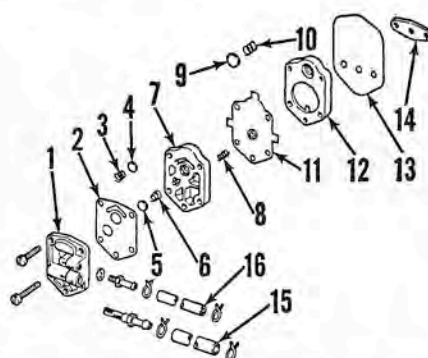

Fig. E13—Exploded view of fuel pump assembly typical of that used on some late motors.
FUEL PUMP. Some late motors are equipped with a diaphragm type fuel pump as shown in Fig. E13. Pressure and vacuum pulsations in the upper crankcase are directed through a passage to one side of the pump diaphragm (11). Vacuum in the crankcase draws the diaphragm inward as shown in View "A", Fig. E12. This diaphragm movement draws fuel past the inlet check valve (5) as shown by arrow. As piston moves downward in cylinder (View "B"), pressure is introduced to the back side of the diaphragm, forcing fuel out past the outlet check valve (4) as shown.
All defective or questionable parts should be renewed. Diaphragm (11—Fig. E13) should be renewed if air leaks or cracks are found; or, if its condition is in any way questionable.